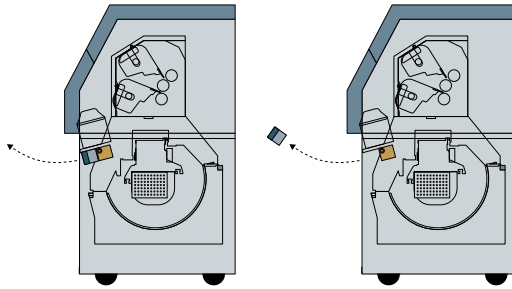

Figure 7.2. Remove the nip drive assembly.
- Step 5: Remove the nip drive assembly. See Figure 7.2.